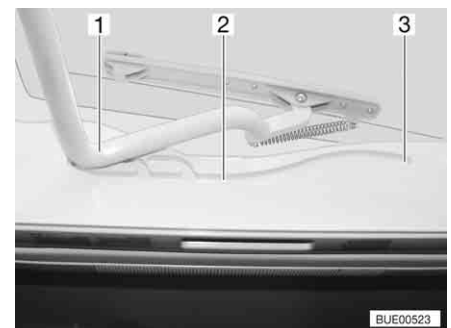

Fig. 77 Heki skylight, guide
- Pull the bar (Fig. 77,1) in the guides (Fig. 77,2) to the rearmost position (Fig. 77,3).
- Use both hands to push the bar (Fig. 77,1) slightly upwards.
- Pull the bar in the guides (Fig. 77,2) to the desired position.